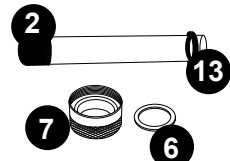

Figure 6
6. Remove the quartz seal compression nut (7) by turning it
**counterclockwise**, Figure 3. Use a pair of channel-lock pliers if needed, Figure 5. You will notice that there is a stainless steel compression washer (6) that slides over the quartz tube. Save the washer (6) for later use, Figure 6. There is also a black seal ring (13), grasp the black seal ring; slowly and carefully remove the quartz tube.